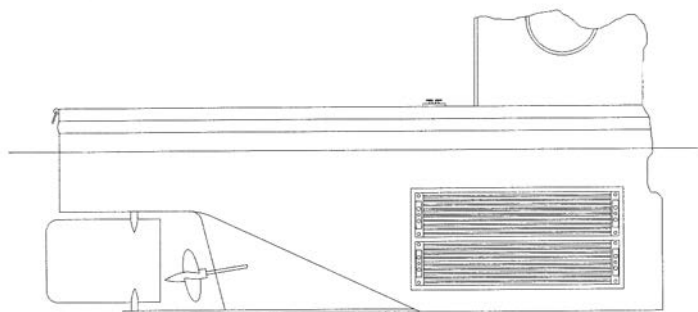

FIG. 4 *Side mounted coolers well below water line.*
- 1.2.2 When installing a unit on the side of a hull, position it well below the water line to avoid aerated surface water. Take the bow wave into consideration. Aeration reduces heat transfer and can cause overheating. See Figure 4.